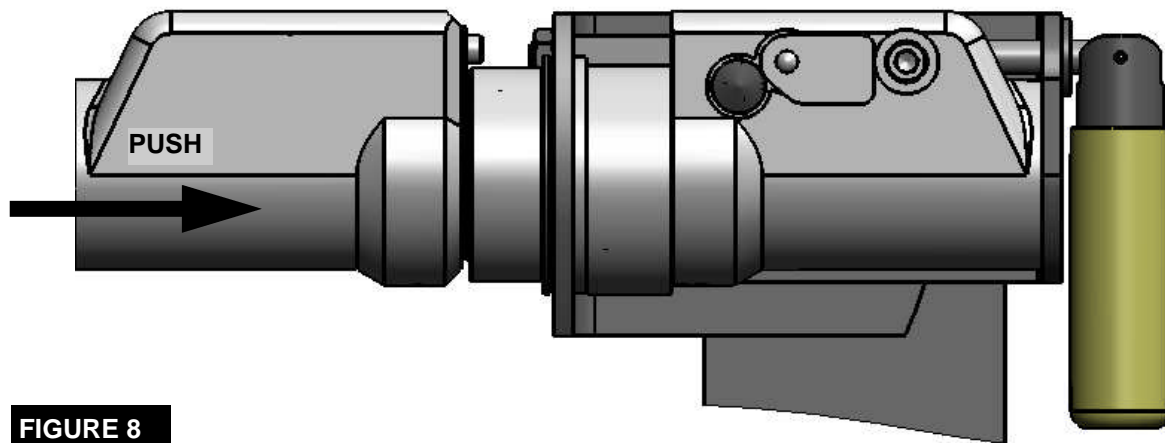

FIGURE 8
7. Once the male plug is fully engaged, return the handle to the horizontal position to lock the coupler halves together. Pull the Male Half to make sure the latch is engaged. Rotate the bracket handle 5-6 turns counter clockwise so that it is no longer in the contact with the bracket and let it hang freely as shown in Figure 8. This is normal operating condition and will ensure the coupler will not disengage accidentally.